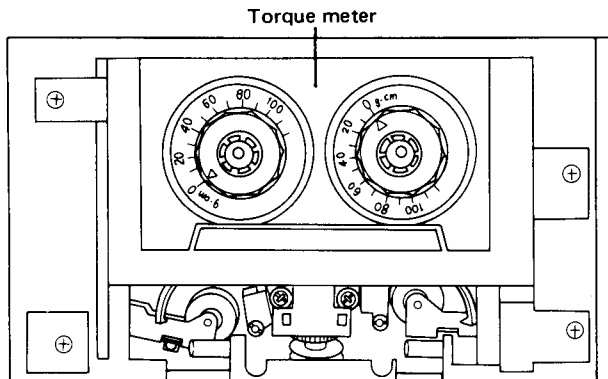

Fig. 4-6 Take-up torque adjustment
5. Check that the take-up torque is within $35 \sim 55 \text{ g-cm}$ (Fig. 4-6).